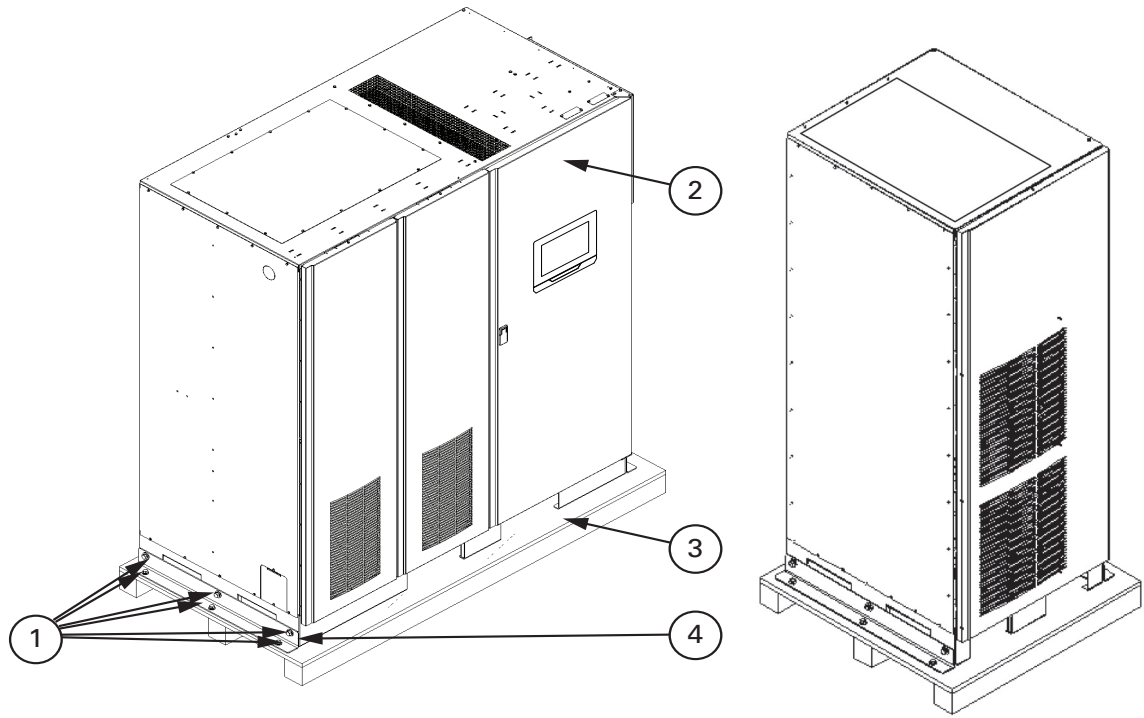
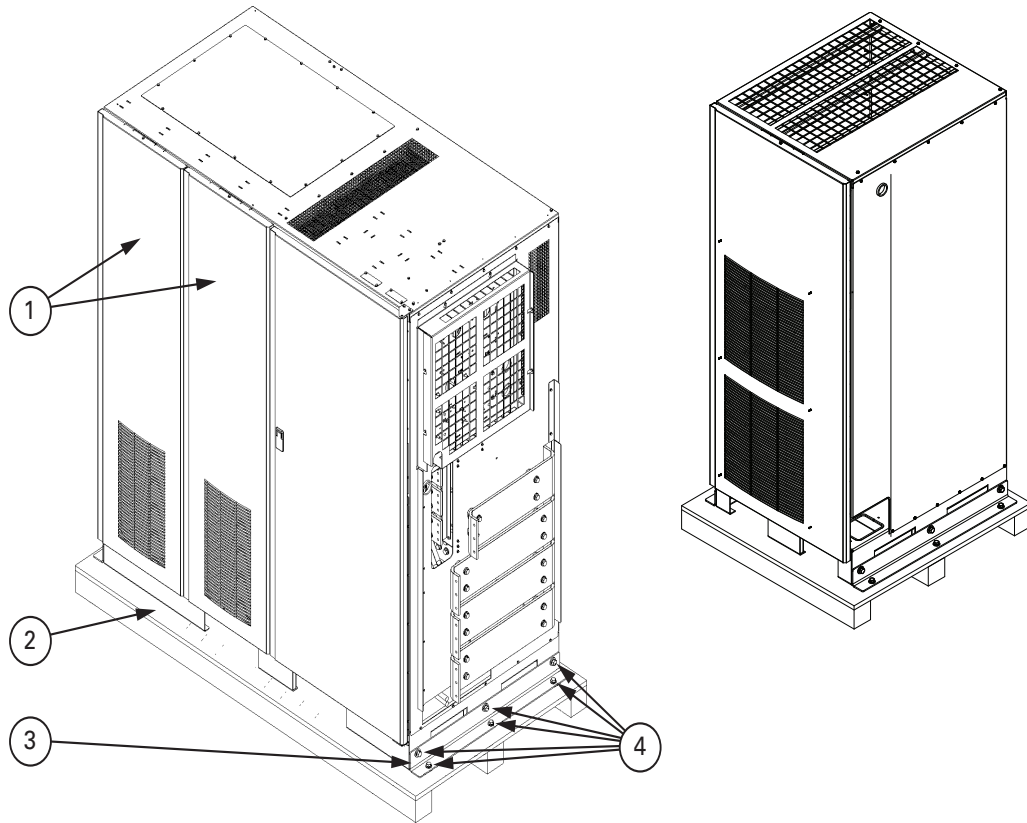
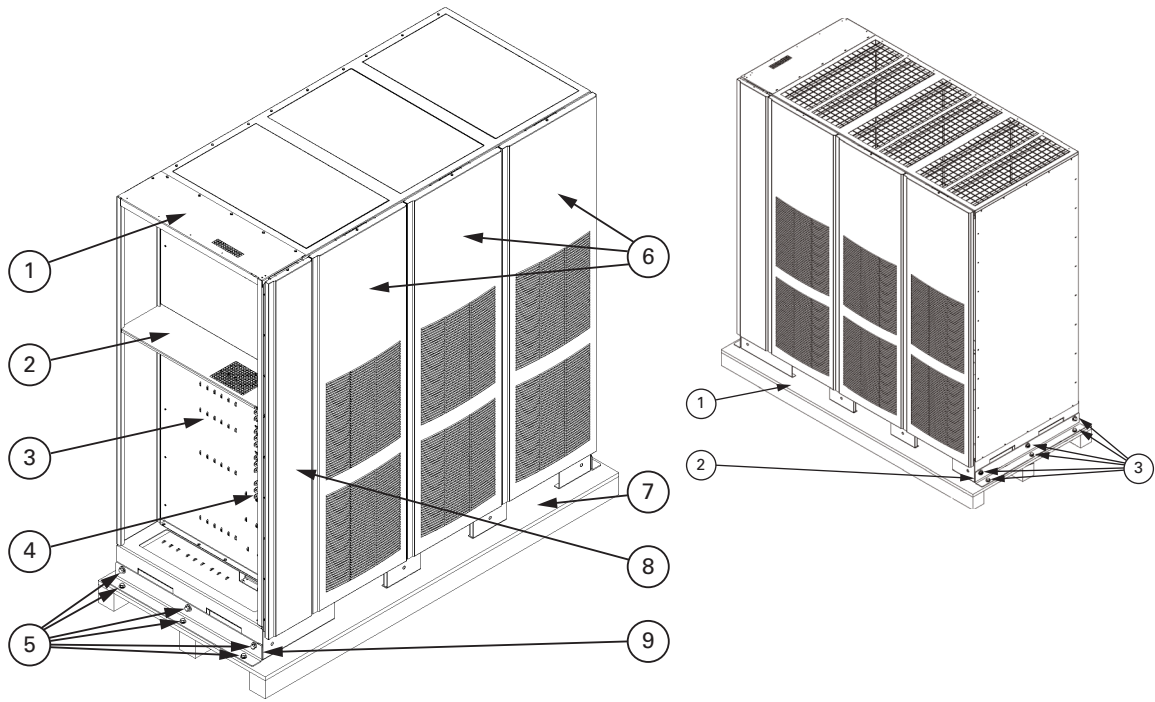

Figure 4-1. Removing left side shipping bracket, ISBM and FI-UPM
Figure 4-2. Removing right side shipping bracket, ISBM and FI-UPM
Figure 4-3. Removing the UPM section right side shipping bracket, UPM
2. Remove the three bolts securing the left side shipping bracket to the cabinet and three bolts securing the bracket to the pallet (see Figure 4-1 and Figure 4-2). Remove the left shipping bracket. If permanently mounting the cabinet, retain the shipping bracket and securing hardware for later use.
3. Remove the three bolts securing the right side shipping bracket to the cabinet and three bolts securing the bracket to the pallet (see Figure 4-2 and Figure 4-3). Remove the right shipping bracket. If permanently mounting the cabinet, retain the shipping bracket and securing hardware for later use.
10. Using the retained hardware, reinstall the shipping brackets removed in Steps 2 and 3 to the left and right side of the cabinet with the angle facing outward (see Figure 4-1 and Figure 4-2). This can be done only after all FI-UPM, ISBM and 3xUPM mechanical connections are made (see Section 4.3).
2. Remove one top screw and two bottom screws securing the UPM section wireway panel (see Figure 4-1 on page 34). Lift the panel straight up to remove it from the panel hanger brackets at the top of the cabinet.
4. Remove the screws securing the corner holder and remove the corner holder (see Figure 4-2). Retain the hardware for later use.
5. Remove the screws securing the left top panel and remove the panel (see Figure 4-2). Retain the hardware for later use.
6. Remove the screws securing the left middle panel and remove the panel (see Figure 4-2). Retain the hardware for later use.
8. Reinstall the left front corner holder (see Figure 4-1) and secure using the retained hardware.
9. Reinstall the left middle panel (see Figure 4-1) and secure using the retained hardware.
10. Reinstall the left top panel (see Figure 4-1) and secure using the retained hardware
1. Unfasten the front door latch and swing the door open (see Figure 4-1 on page 34).
AC and DC input intercabinet power wiring harnesses are supplied coiled and secured in the UPM wireway on the left side of the UPM section (see Figure 4-1 on page 31).
AC output intercabinet power wiring harnesses are supplied attached to the interior left side panel of the UPM section (see Figure 4-1 on page 31).